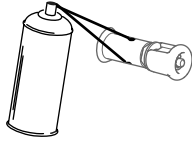

Figure 23
1. Spray aerosol penetrating oil into the top and bottom pin hole on each of the quick pins (Figure 23).